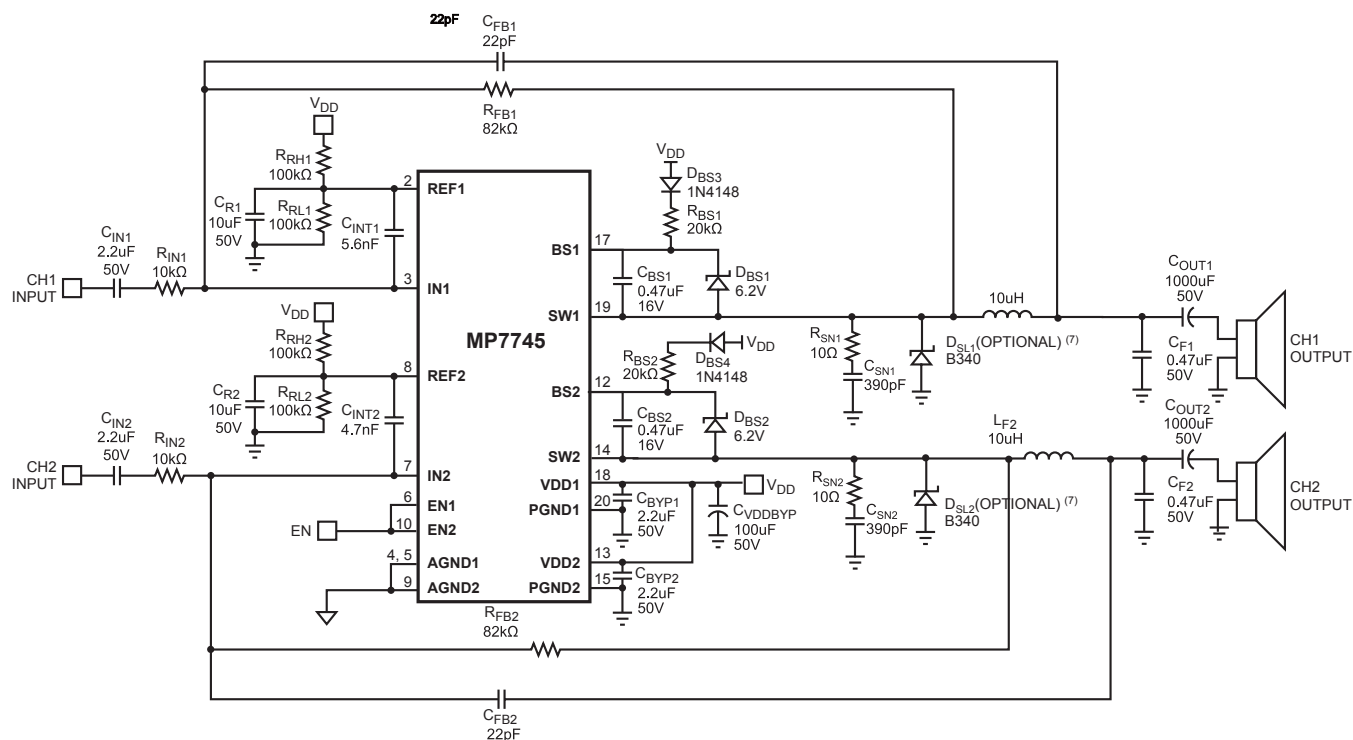

Figure 1—2 x 20W Stereo Typical Application Circuit
The MP7745 uses a minimum number of external components to complete a stereo Class D audio amplifier. The circuit of Figure 1 is optimized for a 24V power supply. This circuit should be suitable for most applications. However, if this circuit is not suitable, use the following sections to determine how to customize the amplifier for a particular application.
Table 1—Switching Frequency vs. V_{DD} , Timing Capacitor and Feedback Resistor (see Figure 1)
The Inductor-Capacitor (LC) filter converts the pulse train at SW to the output voltage that drives the speaker. Typical values for the LC filter are shown in Figure 1, 10 μ H inductor and 0.47 μ F capacitor.